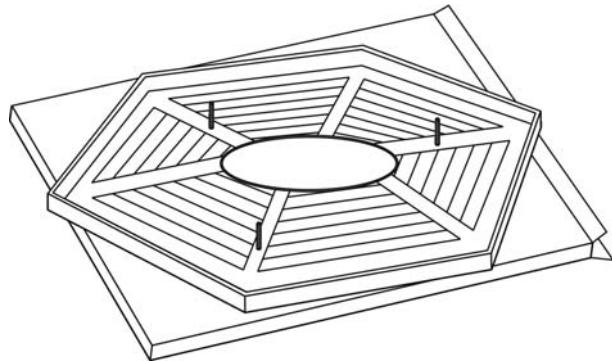

Figure 3
- 2.Place the tabletop upside-down on a flat, non-abrasive surface. Insert four 1/4"x40 mm headless bolts (N) into the pre-drilled hole on the underside of the tabletop as shown in Fig. 3. Do not over tighten.